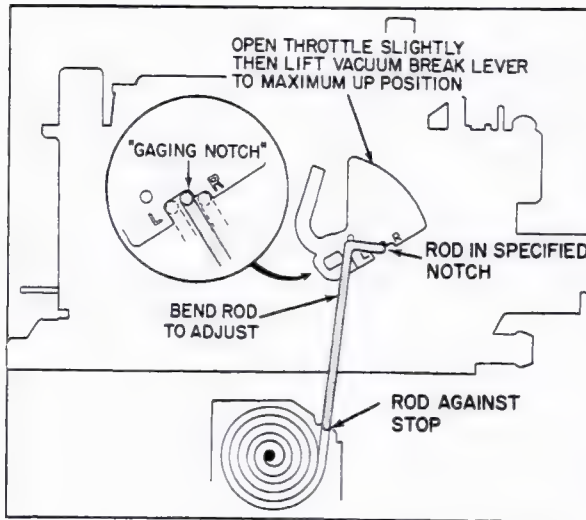

Fig. 6-87 Choke Coil Rod Adjustment
## 90. Choke-Coil Rod Adjustment (On Car) (Fig. 6-87)
3. With choke valve completely closed, fast idle cam in cold start position and vacuum break lever in maximum upward position, pull choke coil rod upward to end of travel against stop in choke coil housing. Upper end of rod should be positioned in gaging notch as shown in Fig. 6-87.